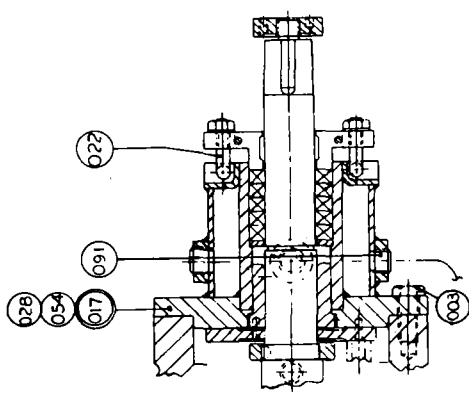

FIGURE 14. VIEW OF INBOARD END WITH WELDED PACKING BOX COVER
Figures 8, 13 and 14: Attach inboard cover sub-assembly (017) and gasket (007) on case (001) using bolts (002, Figures 8 and 13) or (003, Figure 14). Torque bolts (002 or 003) to 85 lbs ft. (± 5 lbs. ft.).
Figures 8, 13 and 14: Slide washer (027) in inboard cover (017). Install five new packing rings (037) in gland sub-assembly (021). Set each packing ring individually and firmly in place, starting with one ring of hard packing, followed with one ring of soft packing, etc. to end with another ring of hard packing. Slide packing gland sub-assembly (021) on power rotor (013). Install capscrews (020) in glands (086 and 087). Turn gland bolts (022) parallel with power rotor (013) and slide packing gland sub-assembly (021) to packing bore of power rotor (013). Slide washers (024) on gland bolts (022) and install nuts (023). Tighten gland nuts (023) evenly and hand tight. NOTE: If plugs (009) and 051, Figures 8 and 13) or (091, Figure 14) were removed during disassembly, install plugs in case (001).